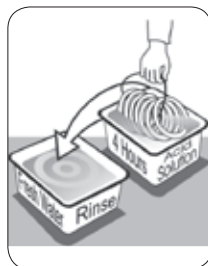

FIGURE 6
- Thoroughly wash the discs with fresh water and then reassemble the discs on the spine (Figure 6).